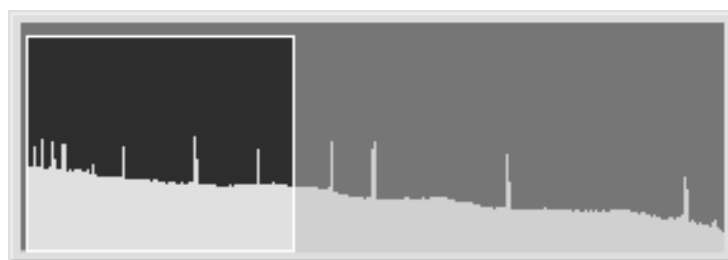

Fig. 6. Contents of Expanded Spectrum View are Highlighted in Full Spectrum View.
6. The **Expanded Spectrum View** shows all or part of the full histogram; this allows you to zoom in on a particular part of the spectrum and see it in more detail. You can change the expanded view vertical and horizontal scaling, and perform a number of analytical operations such as peak information, marking ROIs, or calibrating the spectrum. This window contains a vertical line called a *marker* that highlights a particular position in the spectrum. Information about that position is displayed on the Marker Information Line (see item 10 below).
7. The **Full Spectrum View** shows the full histogram from the file or the Detector memory. The vertical scale is always logarithmic, and the window can be moved and sized (see Section 3.5.4). The Full Spectrum View contains a rectangular window that marks the portion of spectrum now displayed in the Expanded Spectrum View (see Fig. 6). To quickly move to different part of the spectrum, just click on that area in the Full Spectrum View and the expanded display updates immediately at the new position.